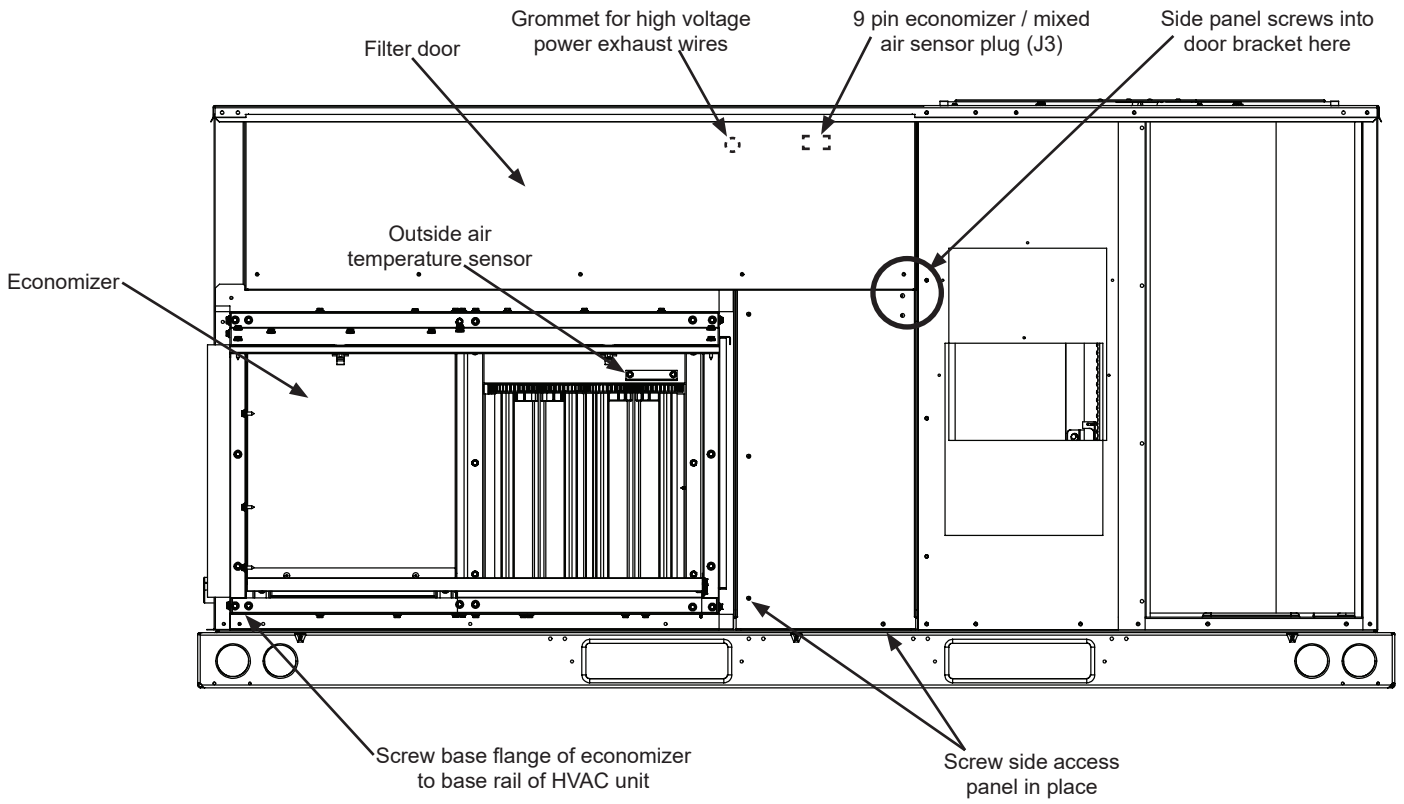

Figure 5
2. Install side panel to the right side of hood, see figures 5 and 6. Screw panel to economizer on left side, and into door bracket on right side of panel.